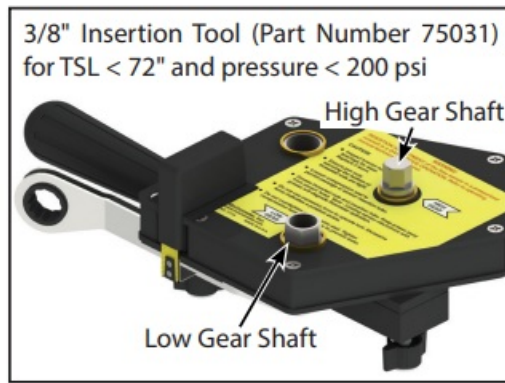

Figure 12. Sensor Insertion Tool
3. Insert the sensor into the pipe by simultaneously rotating clockwise the two captive nuts on the top plate for the 2" sensor, and the single captive nut on the 1" sensor. (Figure 8) For the two captive nuts on the 2" sensor use the two ratchet wrenches provided. It is recommended that the sensor insertion tool (p/n 75031) be used to rotate the captive nuts on the 2" sensor to ensure the top plate compresses evenly. See section 4.8 and Figure 12.
McCrometer recommends using a sensor insertion tool (Figure 12) (P/N 75031) to help with inserting the sensor and to avoid any damage to the sensor. Place the profiling insertion tool over the captive nuts and lock it into place with spring locks located on the bottom of the tool. Using the provided wrench rotate the high gear shaft clockwise until the bottom of the sensor reaches the far wall of the pipe.